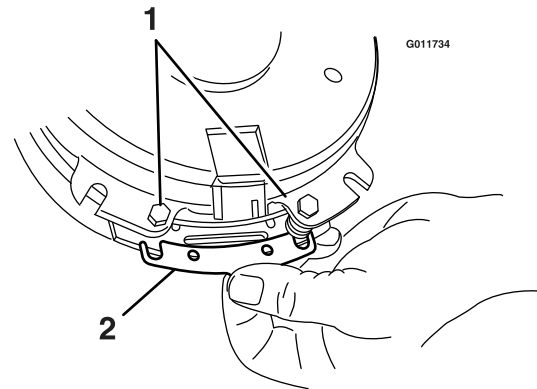

Figure 33
- Loosen both brake mounting bolts one-half to one full turn (see Figure 33).